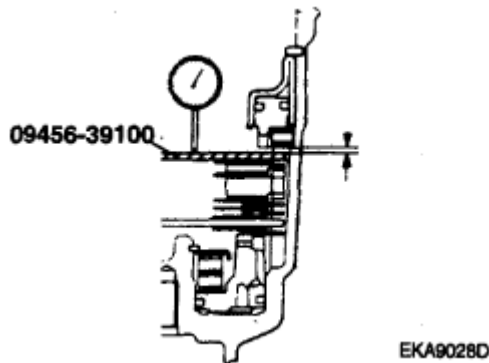

Fig. 82: Determining Proper Thickness Of Low/Reverse Brake Pressure Plate
19. Turn the transaxle upside down, install a dial indicator, as shown in **Fig. 82**.